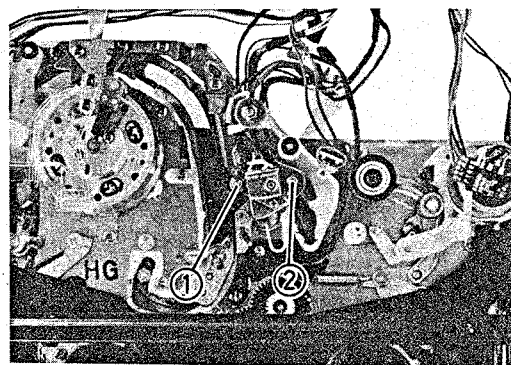

Fig. 2-101 Guide Post (1) and Guide Post (2) Removal
Guide Post (1) and Guide Post (2) Removal (Fig. 2-101)
1. Remove one (1) nut holding the guide post (1).
2. Remove one (1) nut holding the guide post (2):